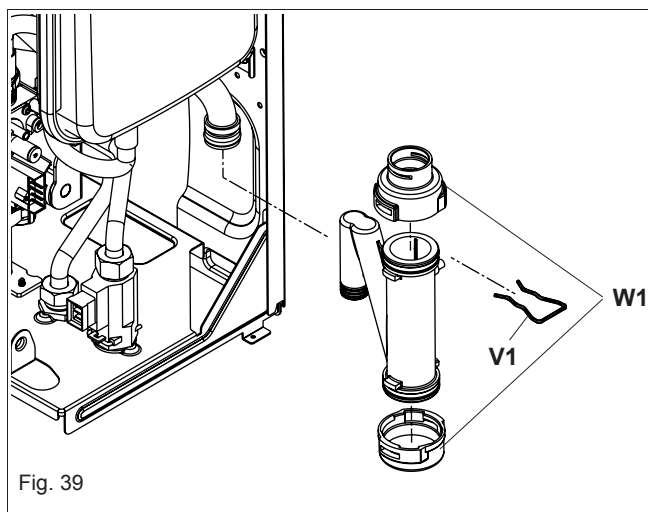

Fig. 39
6.19 CONDENSE TRAP REMOVAL (fig. 39)